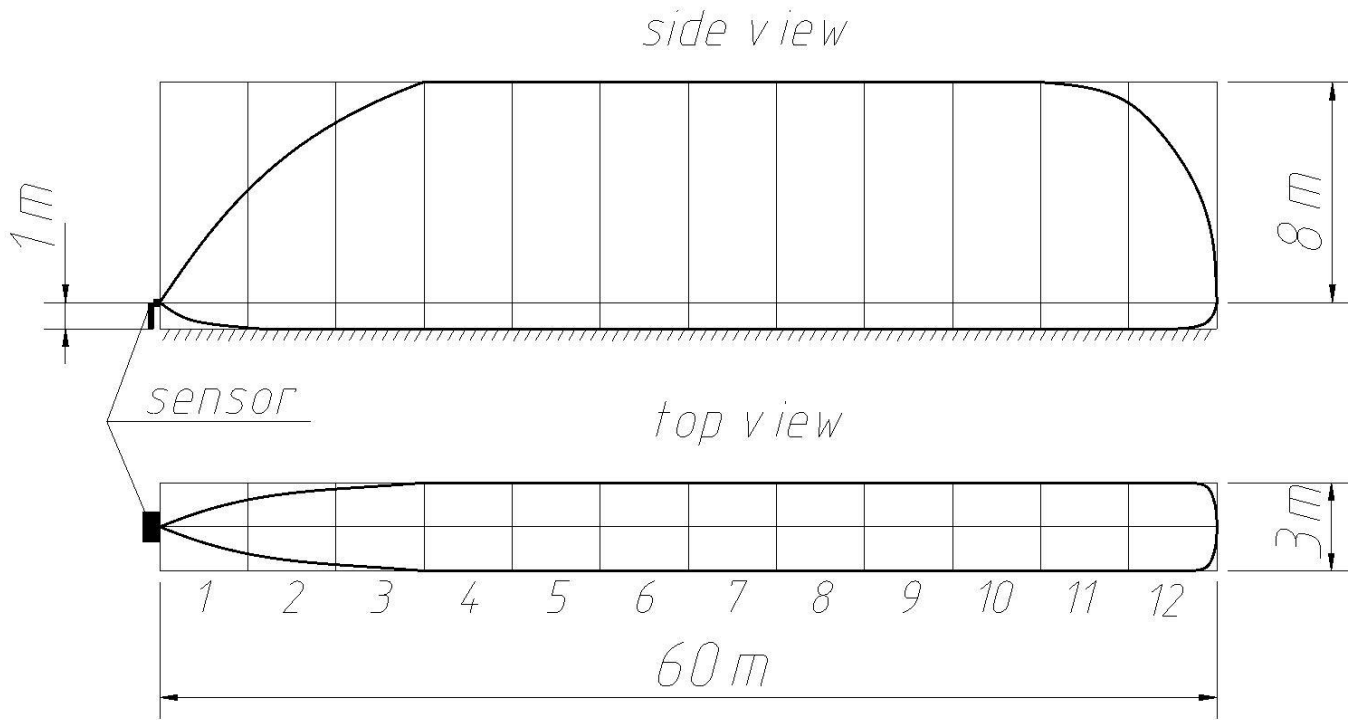

Fig. 8.1 Detection zone parameters of the sensor FM-60 (24)
- 8.3.5.** Fix the sensor at a horizontal position (relative to the ground) with the bolt 9. The model of the detection zone form and its dimensions are shown in fig. 8.1.